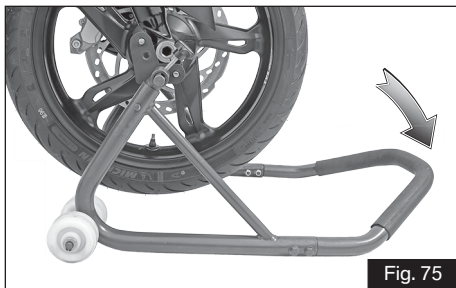

Fig. 75
- ♦ Apply uniform pressure to push the stand down and raise the motorcycle. (ref. Fig. 75)
- ♦ Tighten the clamping screws (1).